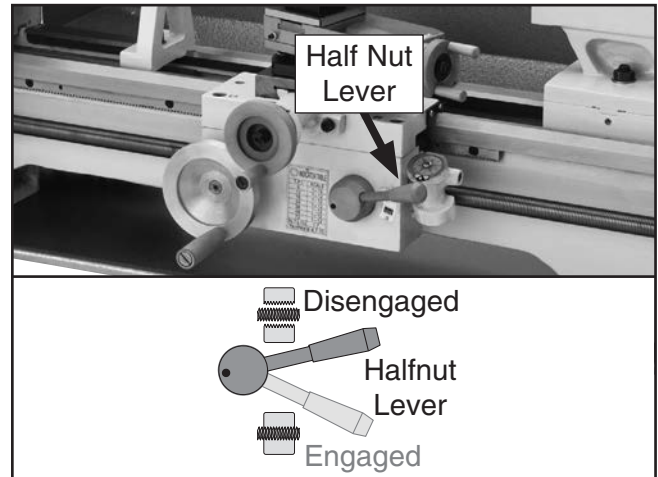

Figure 19. Half nut lever in the disengaged position.
6. Disengage the half nut with the lever shown in **Figure 19**.